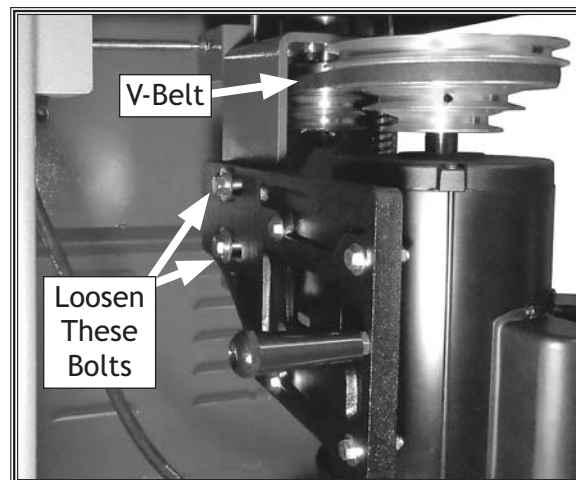

Figure 50. Motor adjustment hex bolts.
3. Loosen the two motor adjustment hex bolts (see **Figure 50**). DO NOT remove the bolts completely.